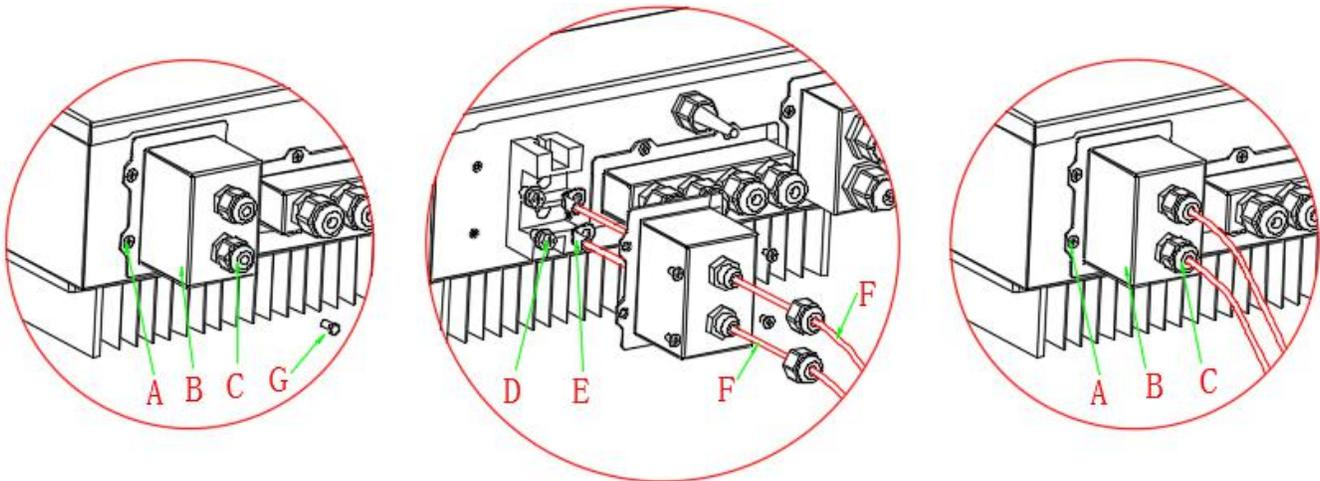

Fig. 5 Battery connection (Test battery wires polarity before connection)
Step 1: Loosen 4 screws (part A) using a screwdriver (fig. 5)